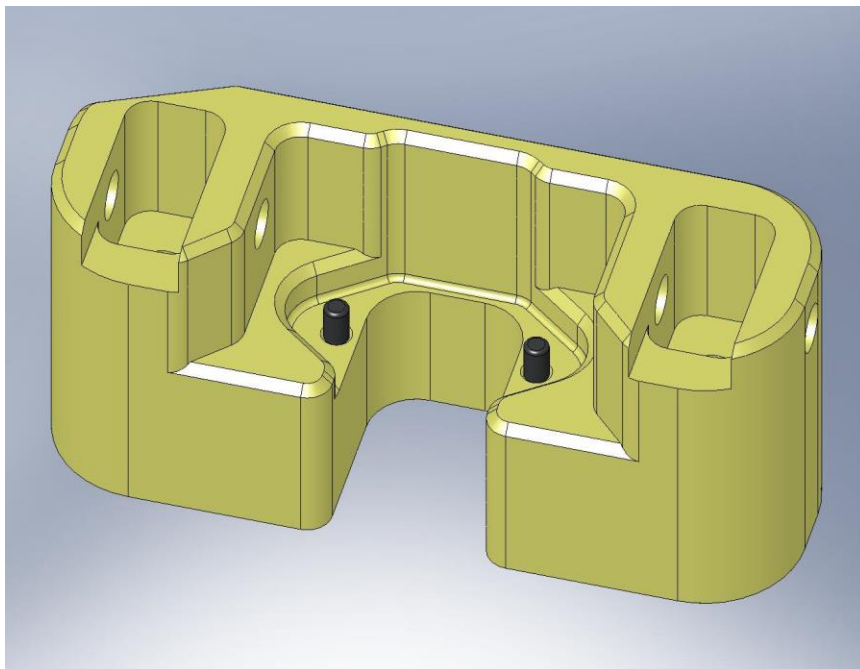

Figure 4.55. Press (2) dowel pins into Spring Pull-Down Cap.
- Insert Heli-Coils into (3) **Spring Pull-Down Caps** (D071305).
- Press (2) 1/4"x.875" dowel pins into holes in pocket of each of (3) **Spring Pull-Down Caps**, as shown in Figure 4.55. The pins should stand .375" proud of the pocket's surface.